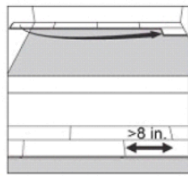

Figure 2
2. Position the first board into place by angling it up slightly, pushing forward and interlocking the side tongue (Figure 2). Slide the board to the left as necessary to align the edges the end joint.